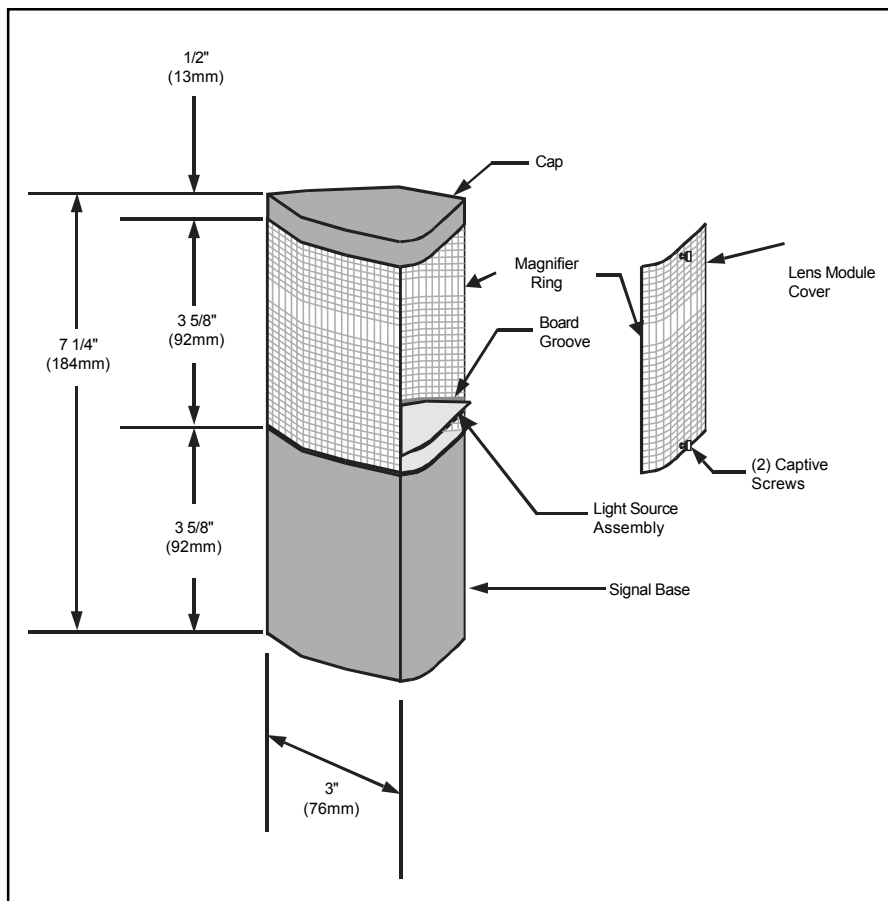

Figure 4. Dimensional Drawing (108I Series shown)
5. If using a second module, install as follows (see Figure 4):
To prevent leakage, ensure the magnifier ring on the lens cover and the magnifier ring on the lens module are aligned (Figure 4).
*ON is in the "UP" position (see Figure 4).